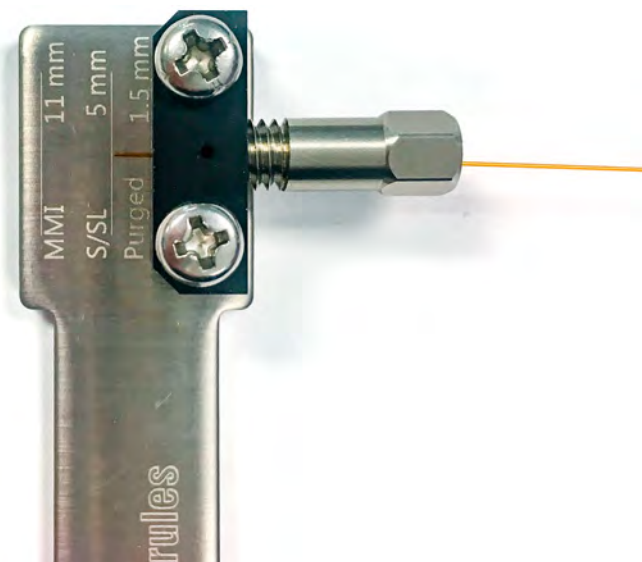

Figure 14. Thread the column nut onto the swaging tool
- 4 Loosely thread the column nut into the swaging tool until you start to feel resistance. The column should still slide freely. See Figure 14.